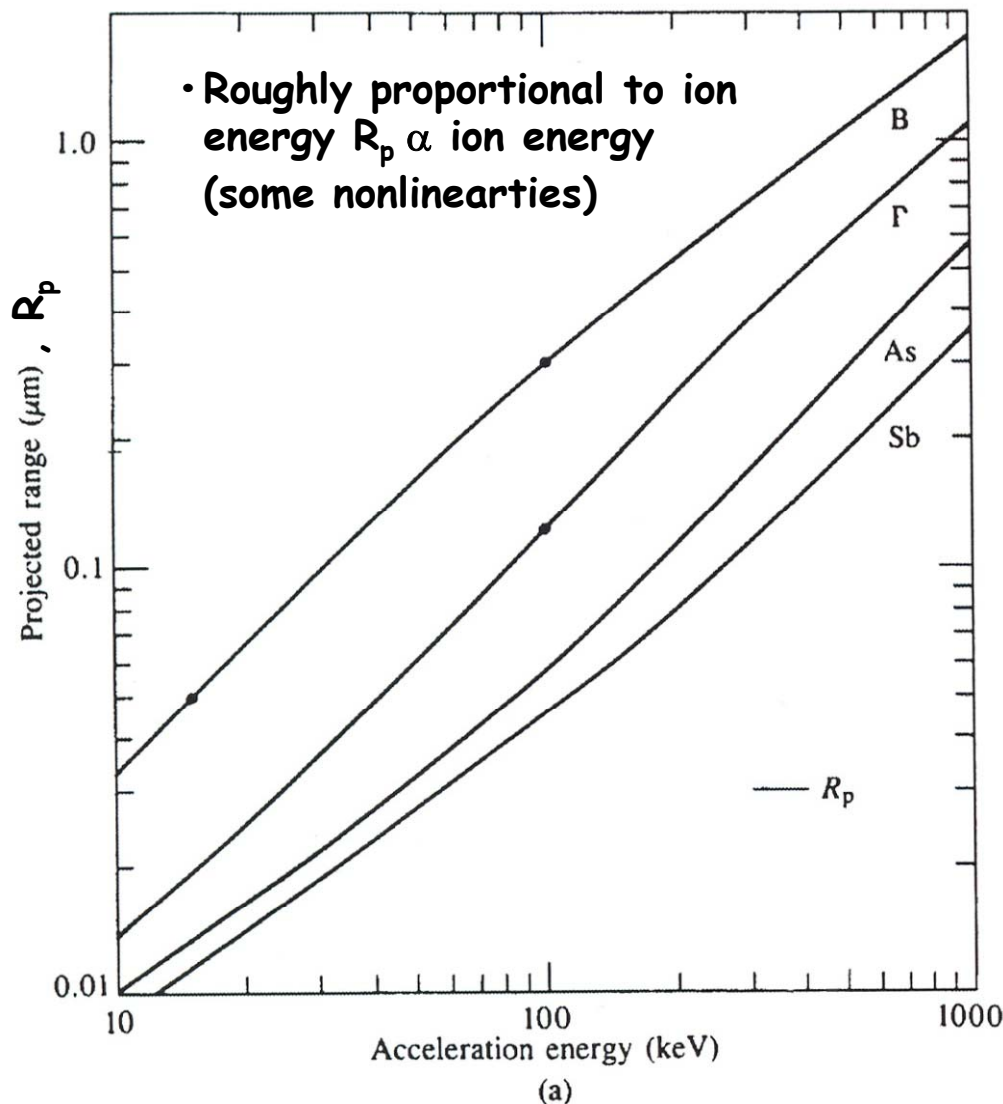

Figure 6.1
- Yields the curves of Fig. 6.1 and 6.2